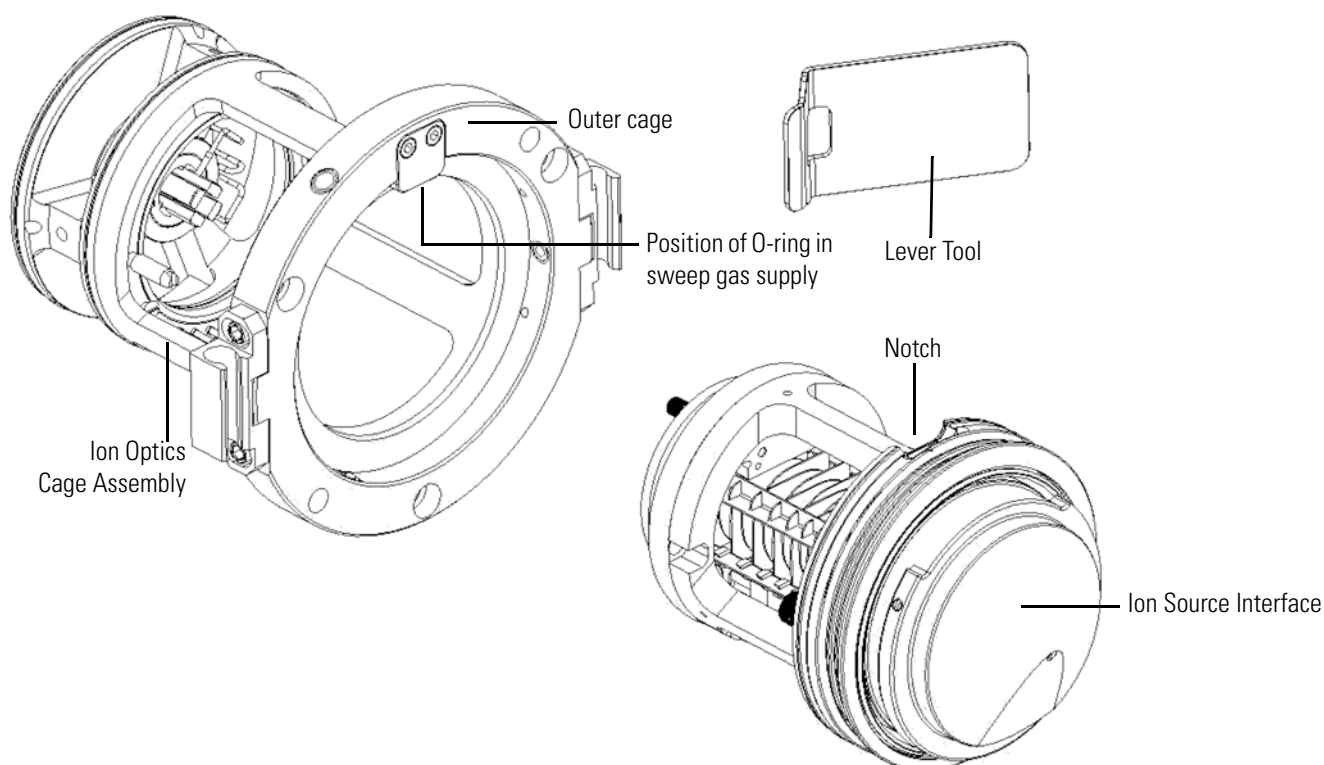

Figure 8-29. Removing the ion source interface
1. Check the position of the little O-ring on the sweep gas supply before inserting the ion source interfaces. See Figure 8-29 on page 8-46. This O-ring sometimes comes out and breaks when you reinstall the ion source interface.